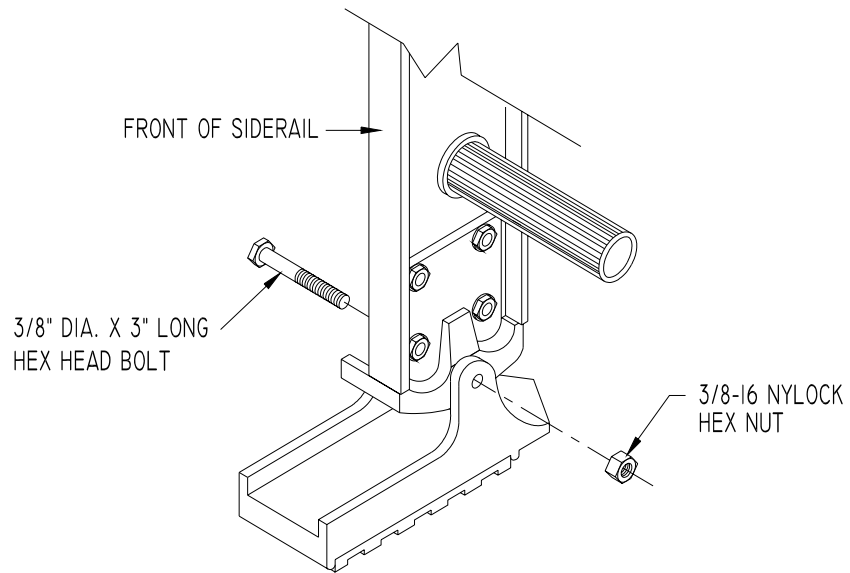

Figure 4
1. Slide PRO mounting bracket fully onto inside of siderail as shown in **Figure 4**. Using bracket as a pattern, mark each siderail for hole locations. Remove bracket and drill four 3/16" holes as marked on both siderails. Continue final assembly as per instructions below.
2. Attach new swivel shoe to mounting bracket using one each 3/8" x 3" hex head cap screw, and 3/8" nylock hex nut. Be sure to orient spur plate correctly with respect to the side rail as shown in Figure 4. Lock nut should be on inside face of track rail. Do not over tighten, Swivel Shoe must be able to pivot freely.